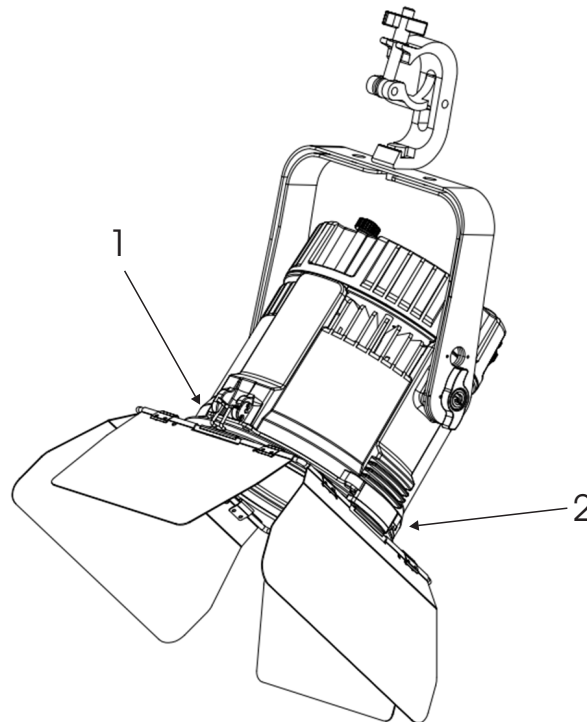

Figure 7. XPAR 12Z with Barndoors
1. See Figure 7. Pull back the spring clip (1) on the top of the fixture and slide the barndoor accessory into the channels (2) provided on the left, right and bottom of the fixture lens. Release the spring clip and ensure that all four sides of the barndoors are correctly held in place.